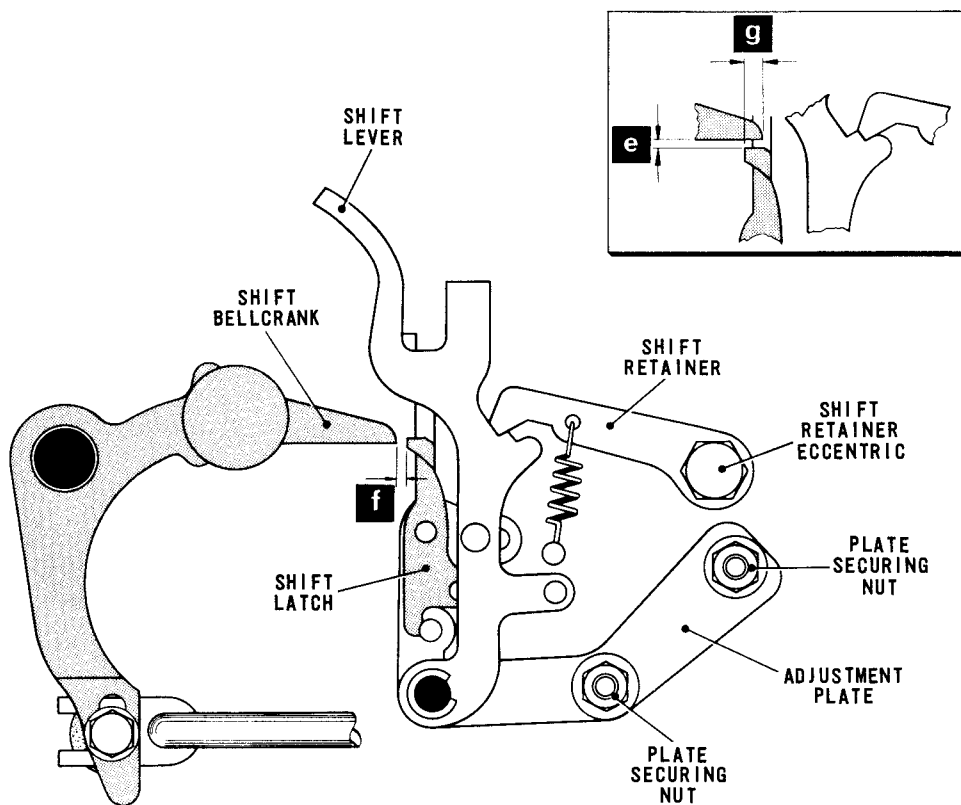

Fig. 4.6 CASE SHIFT MECHANISM—REAR VIEW
- 7.1 With the translator camshaft in the rest condition, move the shift lever, Fig.4.6, to the letters position, i.e. to the right, and check that there is now a vertical clearance of .050 - .060 in. (dimension 'e' - inset) between the top edge of the shift latch and the bottom edge of the shift bellcrank.
- 8.1 Ensure that all the pins in the pin-box are fully withdrawn. Lift the translator clutch abutment and turn the camshaft by hand until the function bars move towards the rear. Move the shift lever, Fig.4.6, alternately from Letters to Figures shift and check that in either position there is a minimum clearance of .010 in. between the operating surfaces of the shift lever and the tails of the Letters and Figures function bars. Check also that the two clearances are approximately equal.